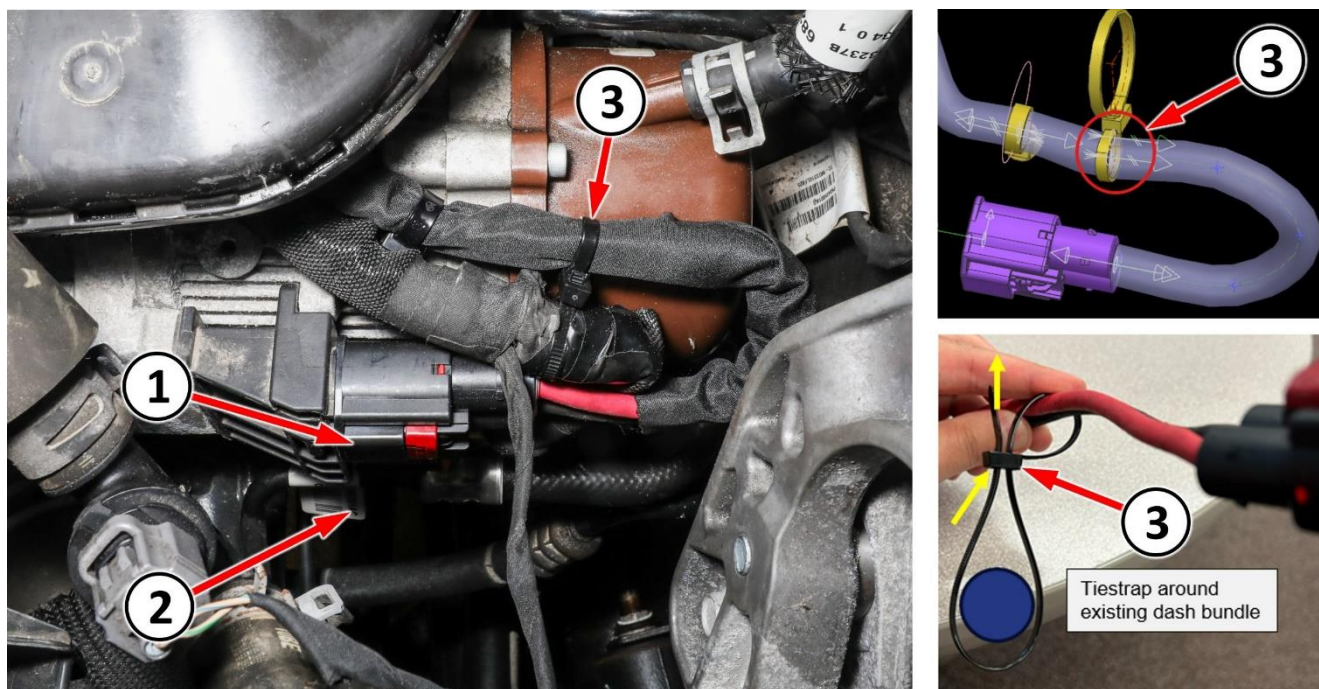

Figure B20 – Power Steering Pump Wire Harness Routing and Clipping
46. Connect the electrical connectors to the EHPS pump then engage the red CPA connector latch in locked position (Figure B20). Verify connection with Push-Pull-Push on connector, not on circuits.